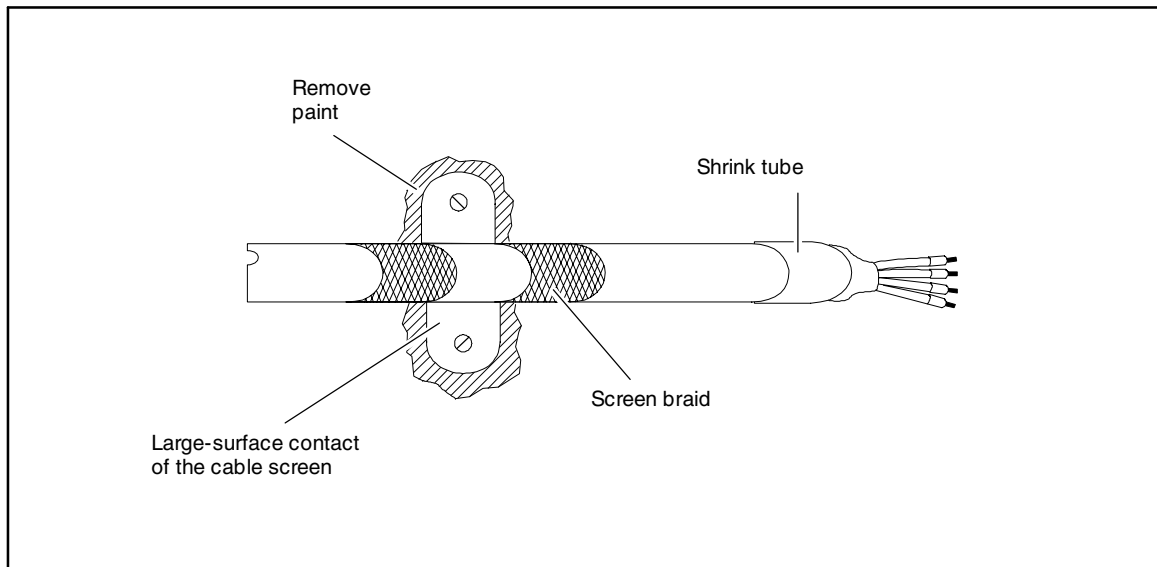

FIG 4-9 Screen connection
| <p>For screened cables</p> <ul style="list-style-type: none"> • Connect the screen correctly (required parts in the accessory kit): <ul style="list-style-type: none"> - Schirmblech ① to the fixing bracket ②. - Fix screen using cable lugs. Do not use the screen for strain relief! - The PE connection is made via the stud next to the power connections. | <p>For screened cables</p> <ul style="list-style-type: none"> • Connect the screen correctly: <ul style="list-style-type: none"> - Connect the screen with a suitable clamp on the conducting mounting plate of the control cabinet (see FIG 4-9). - To improve the screen connection: Connect screen additionally to the stud PE next to the power connections. |